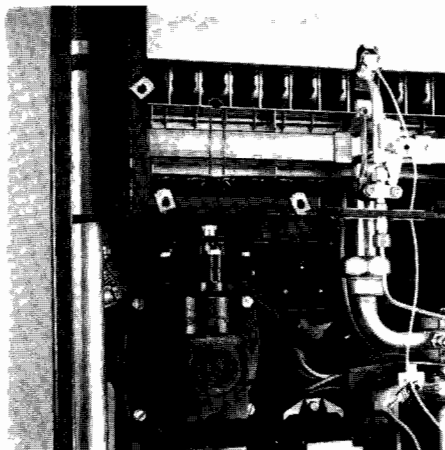

Fig. 43
8.3.4 To vent air from the boiler. Unscrew the cap on the pump automatic vent outlet 1–2 turns, and leave (refer to Fig. 43).